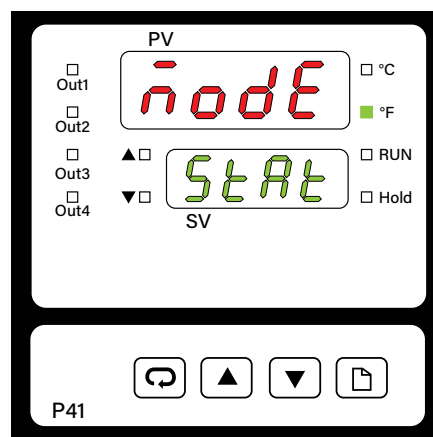

Figure 20
1. Press the  PAGE key until the upper display reads "mode" (*mode*). (See Figure 20).
2. Press the  UP or  DOWN keys to select "Stat" (*Stat*) in the lower display. (See Figure 20).
6. To exit the manual mode, press **▲ ▼** (UP & DOWN keys) together at the same time. The controller will now return to the STAT (*Stat*) mode. (See **Figure 20**).